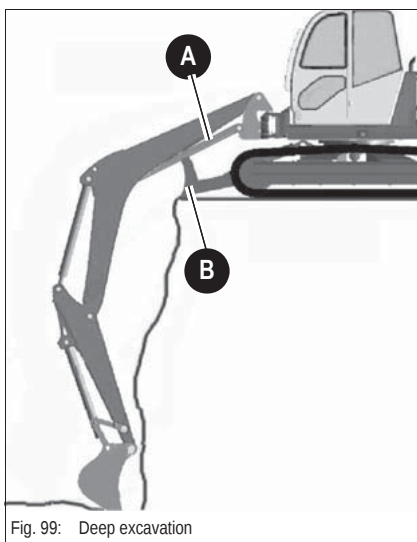

Fig. 99: Deep excavation
- ☞ If you perform deep excavations with stabilizer blade **B** at the front, make sure piston rod **A** does not touch or rest on stabilizer blade **B** (Fig. 99).
- ☞ We recommend using the first work position (Fig. 99) described above.